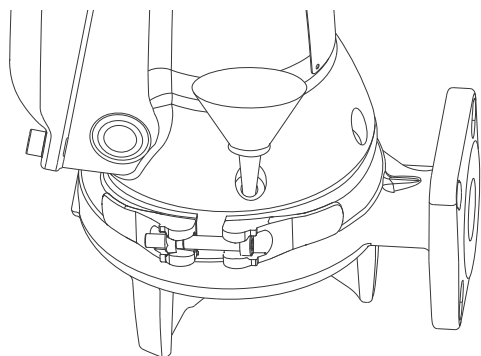

Fig. 7 Oil filling
- Measure the correct amount of oil in the container and pour the oil into the oil chamber (*M*). See fig. 7.